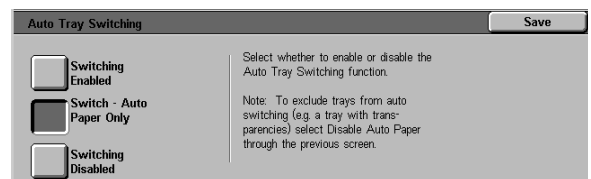

Figure 12: Auto Tray Switching screen
- 6 To enable or disable Auto Tray switching, use the up and down arrows to highlight the Auto Tray Switching option. Touch the **Change Settings** button to display the Auto Tray Switching screen, as illustrated in Figure 12.